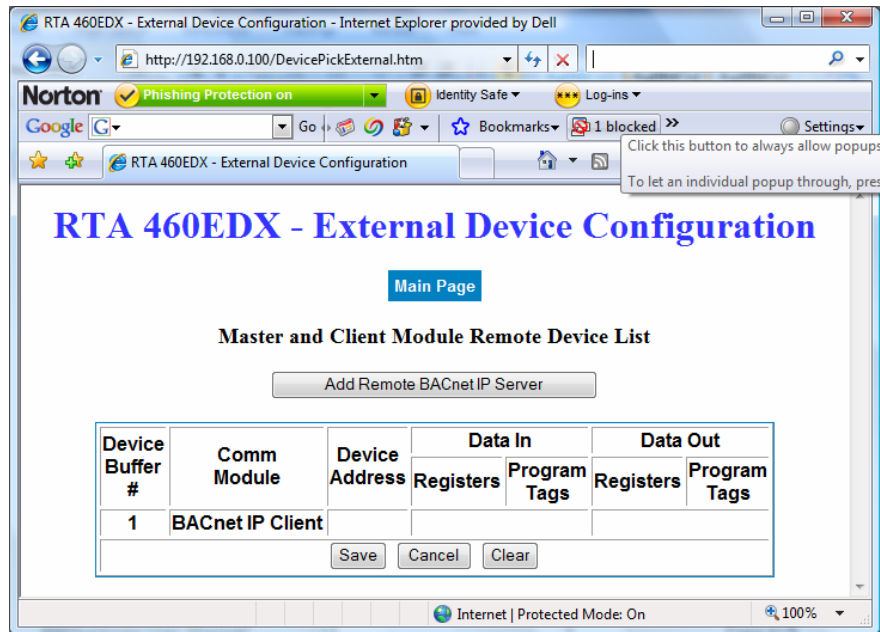

Figure 2-52 External Device Configuration screen
- Click **Edit** in the **Action** column. See Figure 2-52.